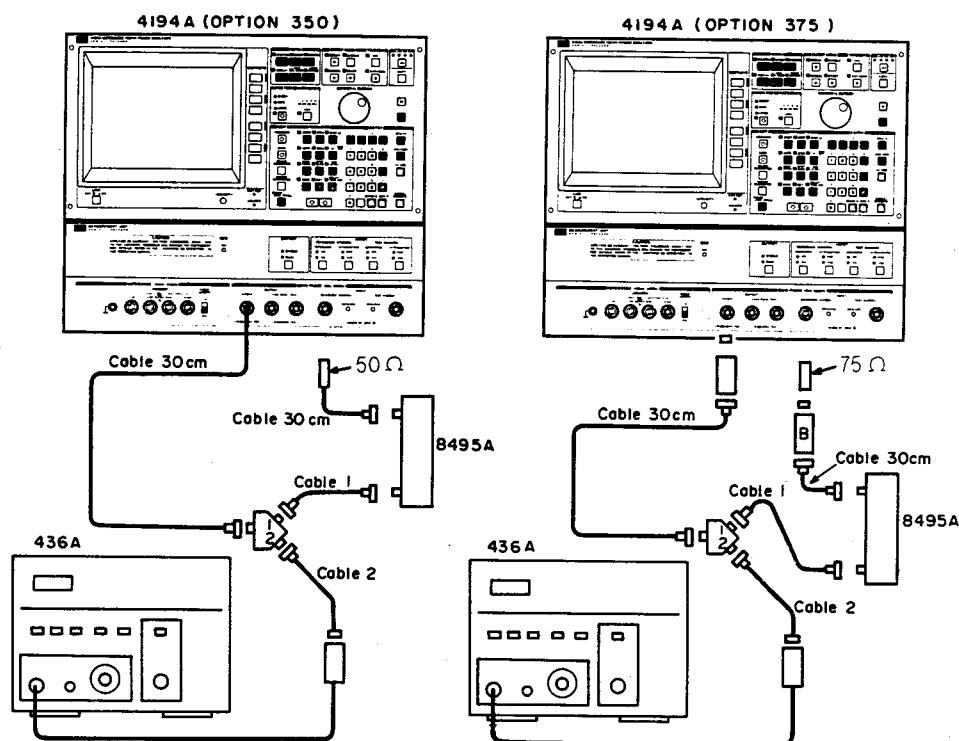

Figure 4-20. Amplitude Measurement Accuracy Test Setup 6
1. Connect the appropriate (50 $\Omega$  or 75 $\Omega$ ) feedthrough termination to the REFERENCE CHANNEL as shown in Figure 4-20.